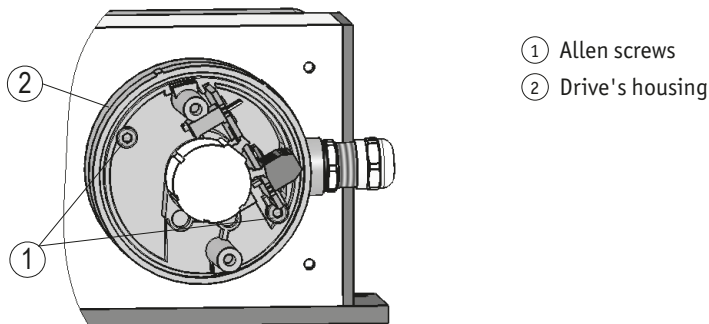

Fig. 15: Changing the position of the cable or connector outlet
2. Slightly loosen the two allen screws ① (see Fig. 15).
3. Now you can rotate the drive's housing ②, ~220° counter-clockwise and ~90° clockwise.
4. Tighten the Allen screws ①, put the hood on the device and close it.